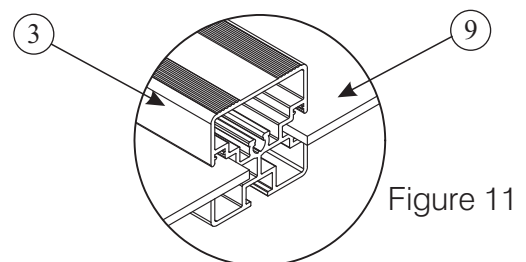

Figure 11
6.) At this point the back sheets (9) need to be slid into place. Again this is a 3 person task, one person will need to hold and support the weight of the sheet and the other 2 to guide and push the sheet into the recess into position. The sheets need to slide into the recess of the extrusion of the bent supports, where the rubber is located (shown more clearly in figure 11). *Note: It is recommended to use some kind of silicone lubricant to aid the plastic sheets to slide in.* The sheet must slide in square, otherwise it will grip on the rubber and wont slide in. As the plastic sheet nears the bottom, make sure you line it up with the back support slot so when it reaches the bottom it will locate in position.